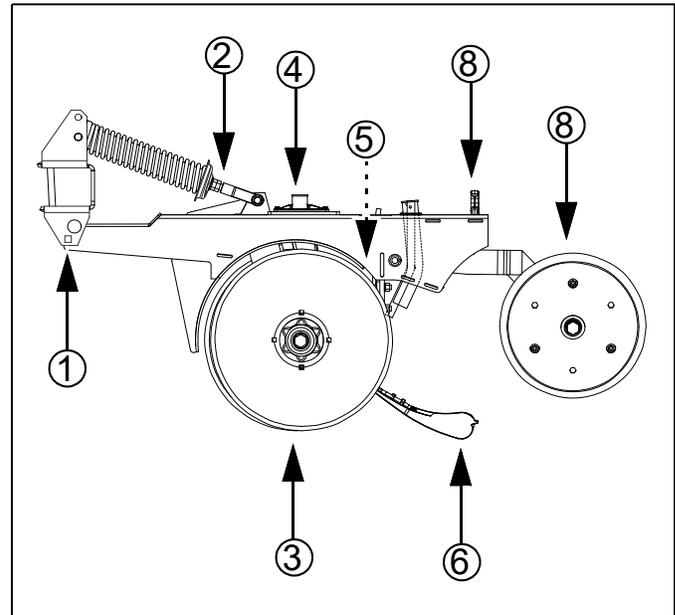

Figure 52
**Refer to Figure 52 (which depicts a row unit fully populated with all optional accessories supported for use with the CTA4000HD implement)**